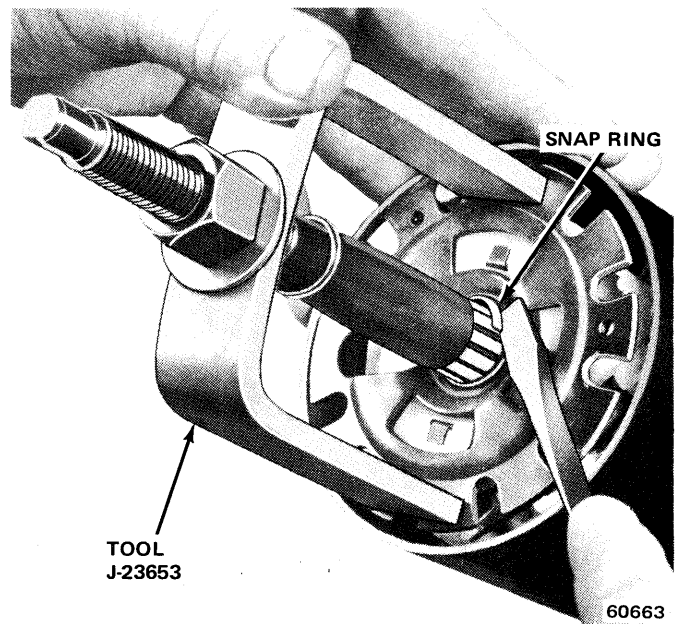
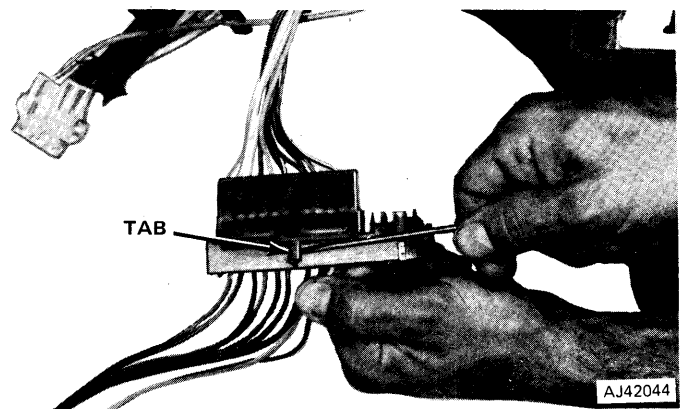
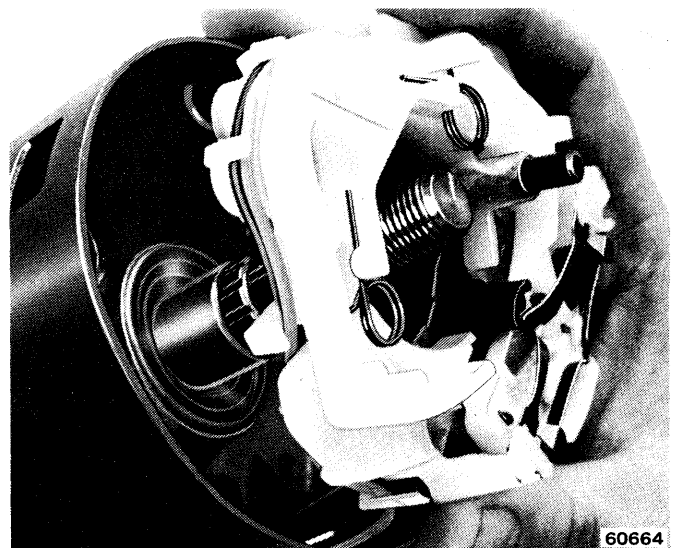

Fig. 11-4 Removing Lock Plate Snap Ring
Fig. 11-5 Disconnecting Turn Signal Switch Harness Connectors
Fig. 11-6 Removing—Installing Turn Signal Switch
(6) Compress lock plate using Lock Plate Compressor Tool J-23653 and unseat wire snap ring from steering shaft groove (fig. 11-4). Discard snap ring, do not reuse.
(7) Remove lock plate compressor tool.
(8) Remove snap ring, lock plate, turn signal canceling cam, upper bearing preload spring, and thrust washer from steering shaft.
(9) Remove hazard warning switch knob. Press knob inward and unthread knob from column.
(10) On vehicles without Cruise Command, remove turn signal lever attaching screw and remove lever.
(11) On vehicles with Cruise Command, disconnect two of four wires at switch connector. Fold wires back along harness. Tape wires to harness and tape length of string to harness to aid removal.
(12) Unhook turn signal switch wire harness connector from bracket at lower end of steering column.
(13) Disconnect instrument panel harness connector from turn signal switch harness connector by lifting plastic lock tab on connector and separating connectors (fig. 11-5).
(14) Wrap tape around turn signal switch harness connector to prevent snagging during removal.
(15) Remove turn signal switch attaching screws and remove switch. Pull switch and harness straight up and out of housing (fig. 11-6).